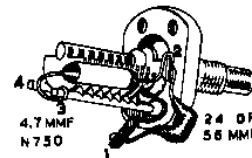

Figure 2A
- (✓) In a similar manner, on a second 15 mmf midget variable capacitor, connect a 56 mmf NPO disc capacitor between the stator lug 1 (S1) and the rotor lug 2 (NS). See Figure 2A.
- (✓) Again, in a similar manner, connect a 24 mmf NPO disc capacitor between the stator lug 1 (S1) and the rotor lug 2 (NS) on the remaining 15 mmf midget variable capacitor. See Figure 2A.
- (✓) Keeping leads short, on the 15 mmf variable capacitor with the 56 mmf capacitor previously installed, connect a 4.7 mmf N750 capacitor between the projecting end of the stator bar 3 (S1) and the rotor lug 2 (NS). See Figure 2A. Use care in soldering to the stator bar to prevent solder from running into the capacitor plates.
- (✓) In the same manner, on the 15 mmf variable capacitor with the 24 mmf capacitor previously installed, connect a 4.7 mmf N750 capacitor between the projecting end of the stator bar 3 (S1) and the rotor lug 2 (NS). See Figure 2A.